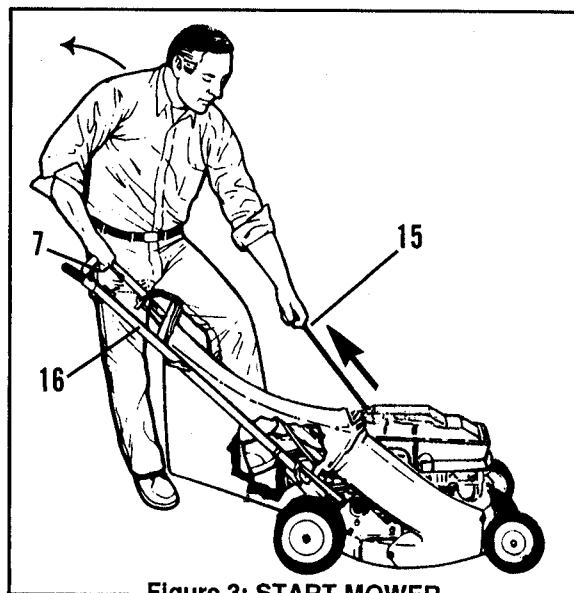

Figure 3: START MOWER
2. Hold **BLADE CONTROL** (7) firmly against **UPPER HANDLE** (16) - otherwise the engine will not start! Refer to FIG. 3.
4. Bend at waist to reach **ROPE START HANDLE** (15) and straighten up as you pull handle - using back muscles more than arm muscles.